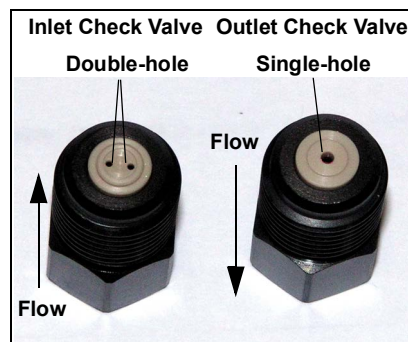

Figure 10-3. Check Valve Assemblies
7. With the double-hole end of a new cartridge (P/N 047747) facing up, drop the cartridge into the *inlet* check valve housing (see Figure 10-3).
8. With the single-hole end of a new cartridge (P/N 047747) facing up, drop the cartridge into the *outlet* check valve housing (see Figure 10-3).